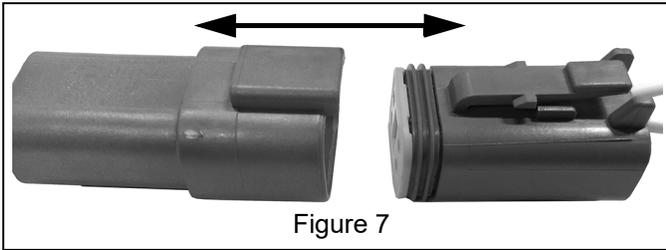

Figure 7
11. Separate accessory plug. See Figure 7.